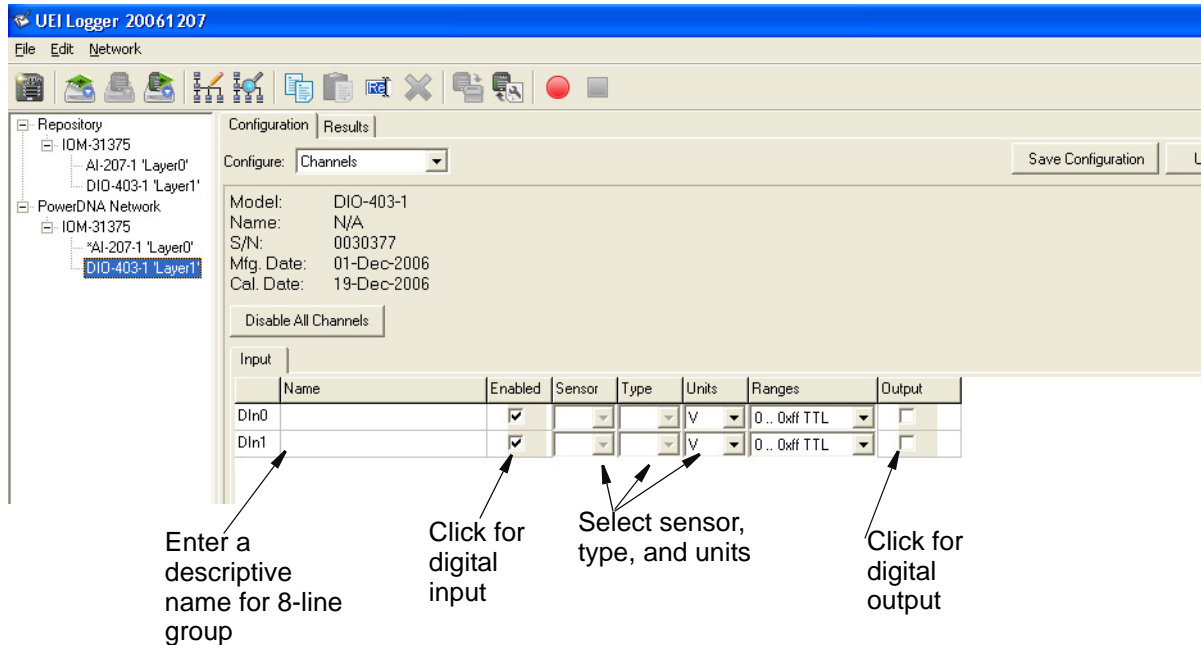

Figure 2-31. Configuring DIO Channels
STEP 2: In the left panel of the Logger screen, click on DIO-403-1 'Layer1'. Then, in the right hand window, click on the *Configuration* tab. In the *Show* box, pull down the menu and select *Channels*. The screen shown in **Figure 2-31** then appears.